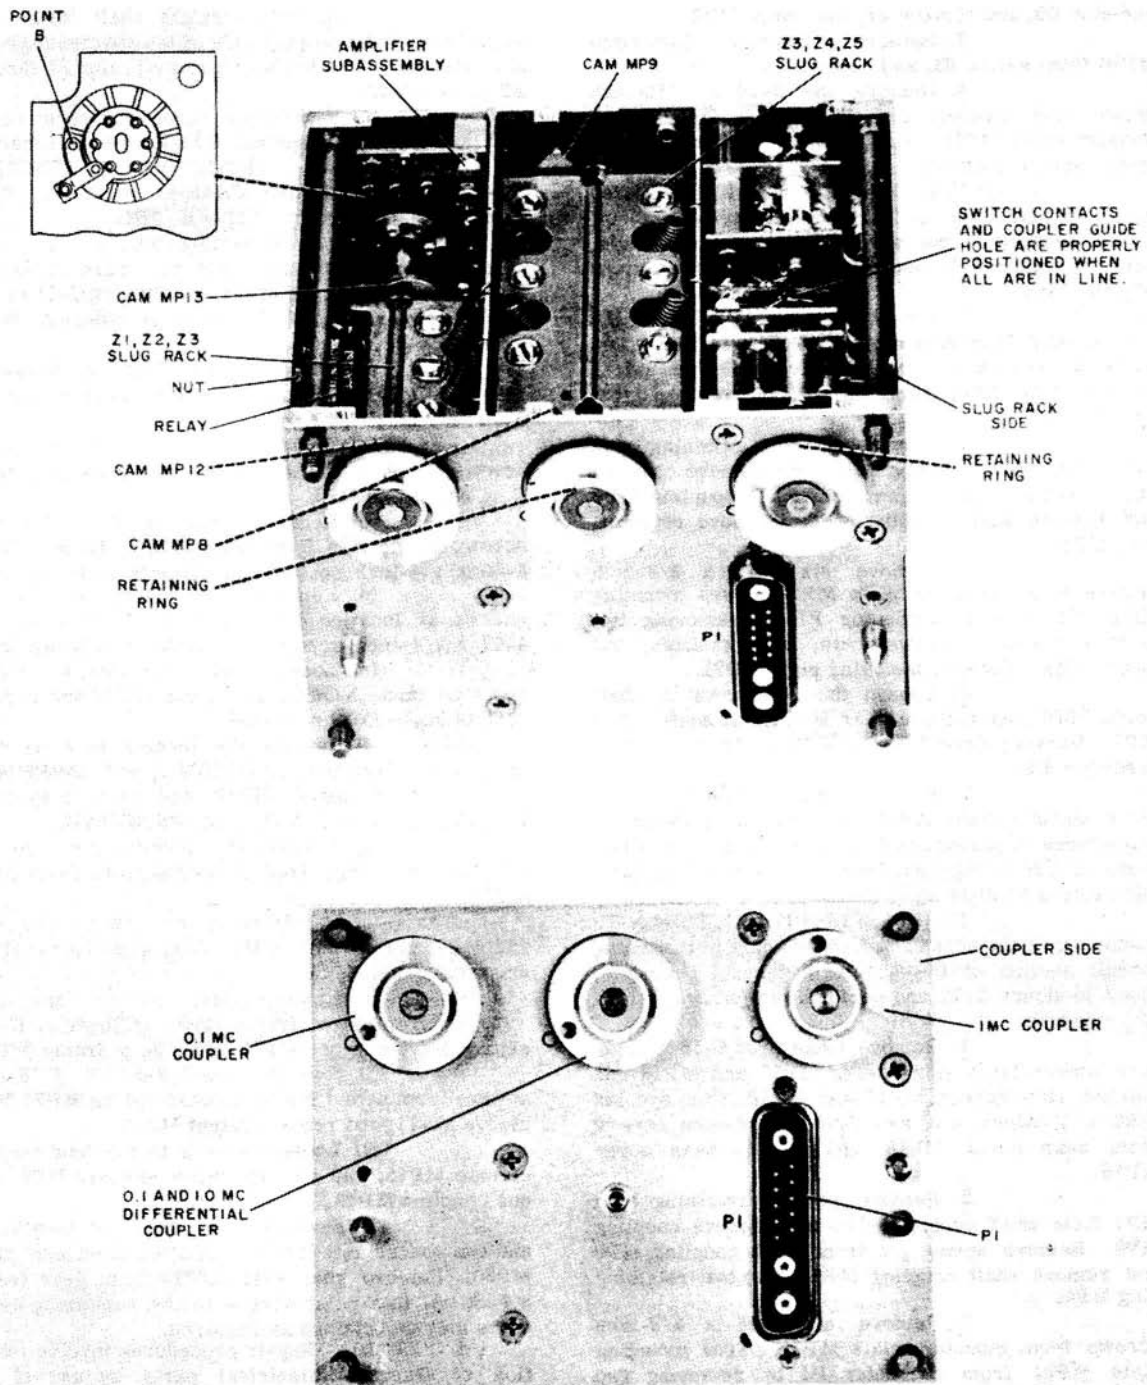

Figure 5-27. 1st and 2nd I-F Amplifier Module, Switch and Cam Positioning Diagram
3. Set the 1st and 2nd i-f amplifier module on the maintenance bench so it is resting on the wired bracket assembly and the slug racks are upward. Rotate the coupling half so its guide pin hole is located over the silk-screened circle on the coupler side of electrical equipment chassis MP39. The rotor of the rotary switch on the amplifier subassembly should be making contact with its stator at point B (refer to figure 5-27) and the high point on cams MP12 and MP13 should be positioned downward. Replace spring pins in cams MP12 and MP13 and connect the two helical springs MP6.
4. Rotate cams MP8 and MP9 so their flat sides are upward and to the left, so their collar pinning holes match the holes in shouldered shaft MP11. Replace the spring pins in cams MP8 and MP9 and connect four helical springs MP6. Refer to figure 5-27.
(c) OSCILLATOR AND SWITCHBOARD, AND R-F CQIL ASSEMBLIES. - With the oscillator and switchboard, and r-f coil assemblies in place on electrical equipment chassis MP39, replace the shaft of shouldered shaft MP15 into the bearing of chassis MP39. Replace the shaft of shouldered shaft MP15 through the oscillator and switchboard assembly, the r-f coil assembly, and into the bearing of electrical equipment chassis MP15. With the coupling half of shouldered shaft MP15 rotated so its guide pin hole is upward, the electrical contacts of the rotary switches in the oscillator and switchboard and the r-f coil assemblies should be upward and in line with the coupling half guide pin hole. Refer to figure 5-27. Replace retaining ring on shouldered shaft MP15.